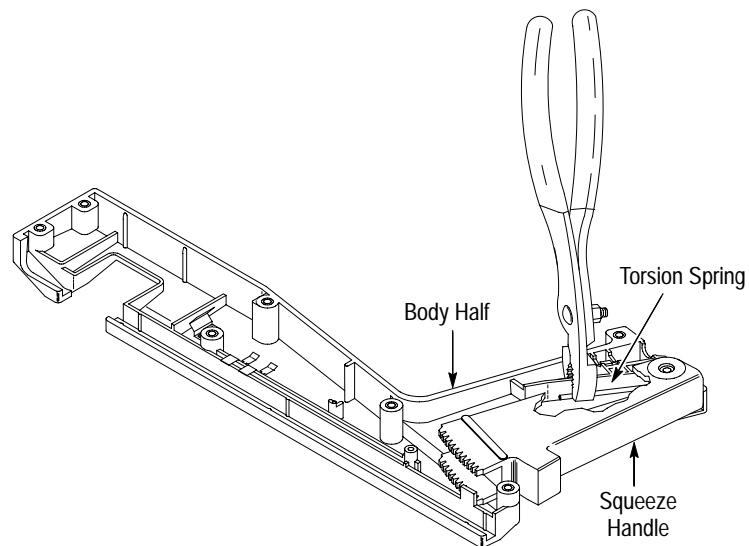

Figure 8: Removing the Handle
6. Lift the cable out of the probe handle and insert a pair of pliers in the handle as shown in Figure 8.
7. While maintaining a firm grip on the pliers, carefully lift the squeeze handle and gear out of the probe. See Figure 8.